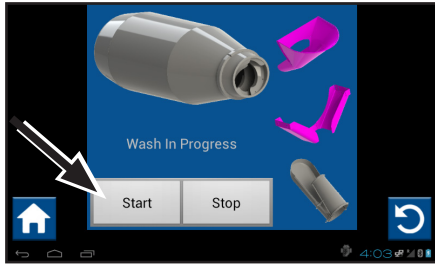

Figure 98
5. Press the Start button to begin auto wash down of the selected components. A “Wash In Progress” message will display on the screen. (See Figure 98.)